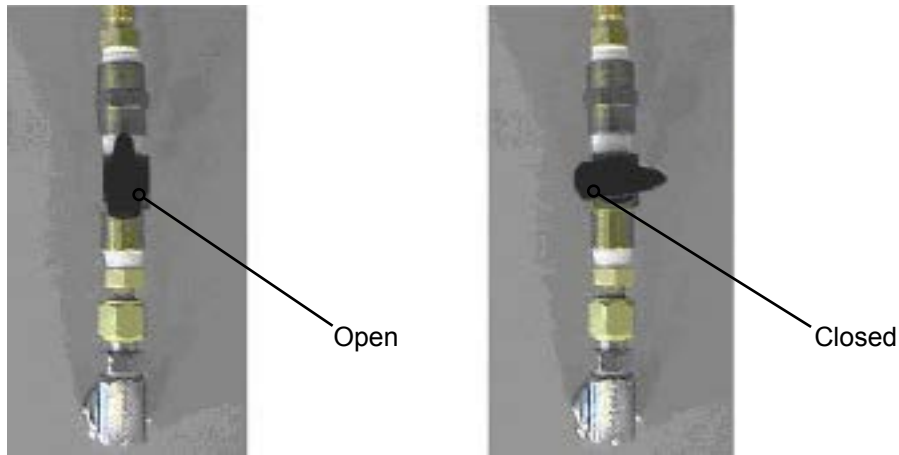

Figure 6.1: PSA Module Supply Valve Assembly
10. Put the supply valve in the closed position (See Figure 6.1).